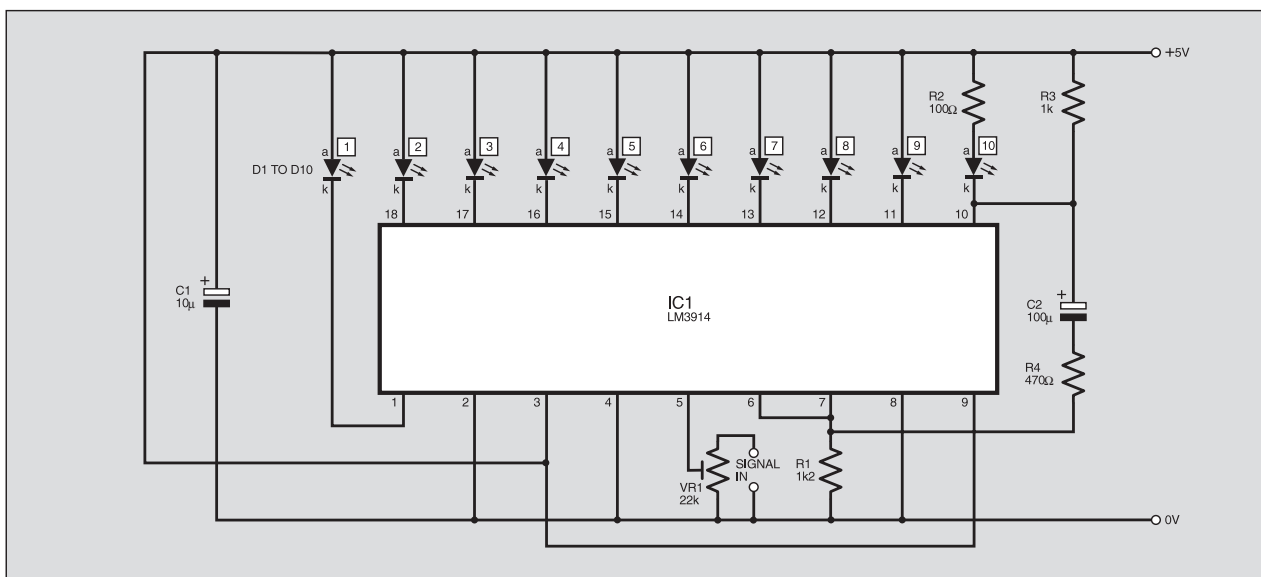
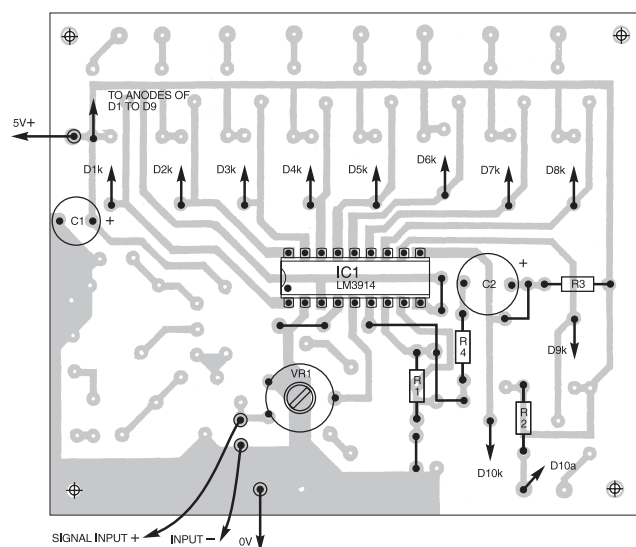

Fig.4. Circuit diagram for the Bargraph display, with alarm flasher. When D10 is activated it begins to flash.
Fig.10c. Component layout for Bargraph display, with alarm flasher. Sensitivity adjustable from 1-25V upwards. See Fig.4 for circuit.
*Bargraph display with "warning" flasher. Sensitivity adjustable from 1.25V upwards. See Fig.4 for circuit and Fig.10c for board details.*
How the entire display can be made to flash when a critical voltage level has been reached is shown in Fig.4. Bargraph mode (pin 9 to pin 3) must be adopted with this arrangement.